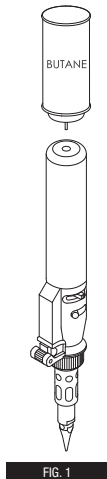

FIG. 1
- Reverse the tool, insert the butane refill's nozzle vertically into REFILLING VALVE located in the centre of the tool to refill the gas. (FIG.1)
- After refilling with gas, wait for approx. 2 minutes, so the gas in the cylinder stabilizes. (FIG. 1)